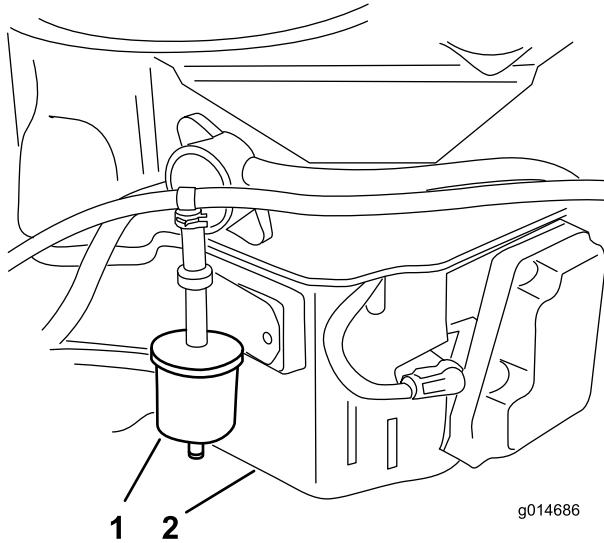

Figure 38
3. Remove the existing fuel vent filter (Figure 38).